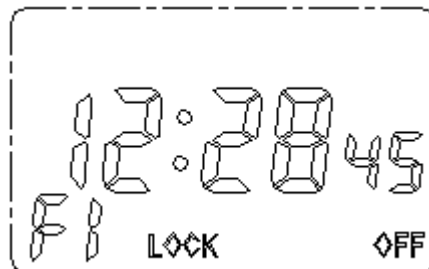

Figure8
4.1.3 After setting, press 'MD' for 3s, enter operation state, the time switch locks automatically, 'LOCK' shows, and see Figure 8.